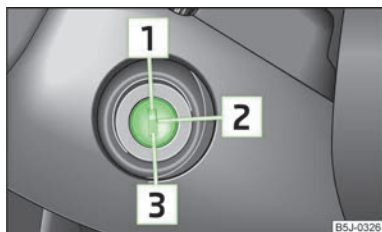

Fig. 79
- When driving, the ignition key must always be in the position **2** » Fig. 79 on page 78 (ignition switched on) without the engine running. This position is indicated by the warning lights coming on. If this is not the case, it could result in unexpected locking of the steering wheel - risk of accident!
- The starter may only be operated (ignition key position **3** » Fig. 79 on page 78), if the engine is not running. The starter or engine can be damaged if the starter is activated when the engine is running.
If the **steering is locked** and the key cannot or can only be turned with difficulty into the position » Fig. 79, move the steering wheel back and forth and the steering lock will unlock.
- Fully depress and hold the clutch pedal, switch on the ignition » Fig. 79 on page 78 and start - do not operate the accelerator. Depress the clutch pedal until the engine starts.
Switch off the engine by turning the ignition key into position » Fig. 79 on page 78.